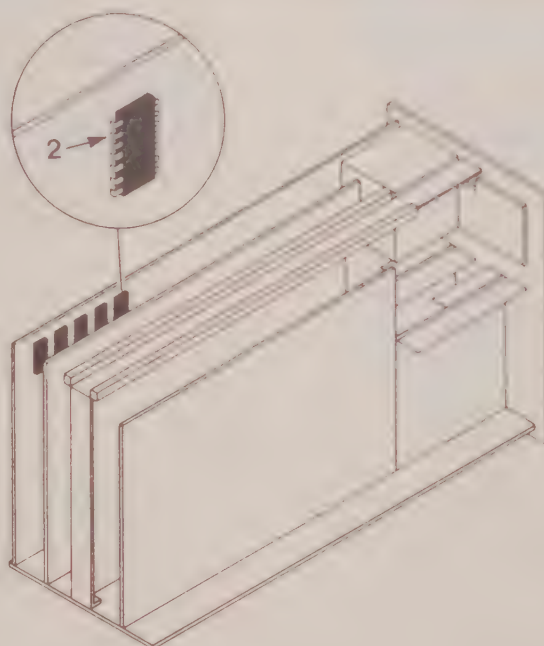

Figure 10-1
10.2.2. Measure the frequency (Time Base) at IC32, Pin 2, (Figure 10-1).